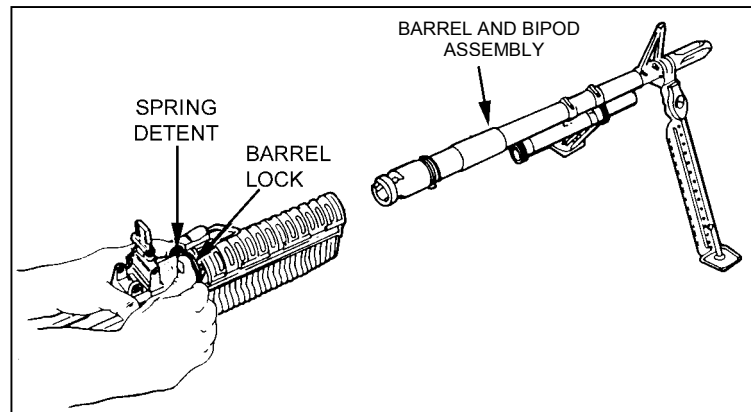

Figure 2-12. Removal of the barrel assembly.
d. **Removing the Barrel Assembly.** The gunner pushes in the spring detent, raises the barrel lock, and removes the barrel assembly (Figure 2-12).